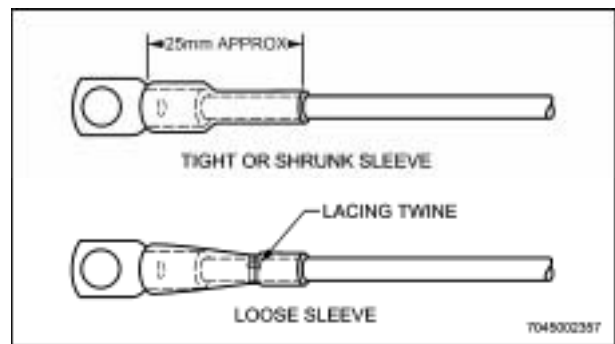

Figure 6-5 Insulating Sleeves
tied; otherwise, it is to be tied with lacing cord. (See Figure 6-5.)
23. Aluminium terminal lugs are not pre-insulated; therefore, it is necessary to insulate them, after assembly, with lengths of transparent flexible tubing or heatshrink sleeves. The sleeve provides mechanical and electrical protection at the connection. (See Figure 6-5).
- k. Slide insulating sleeve over the terminal lug barrel and secure in accordance with paragraph 16 and Figure 6-5.